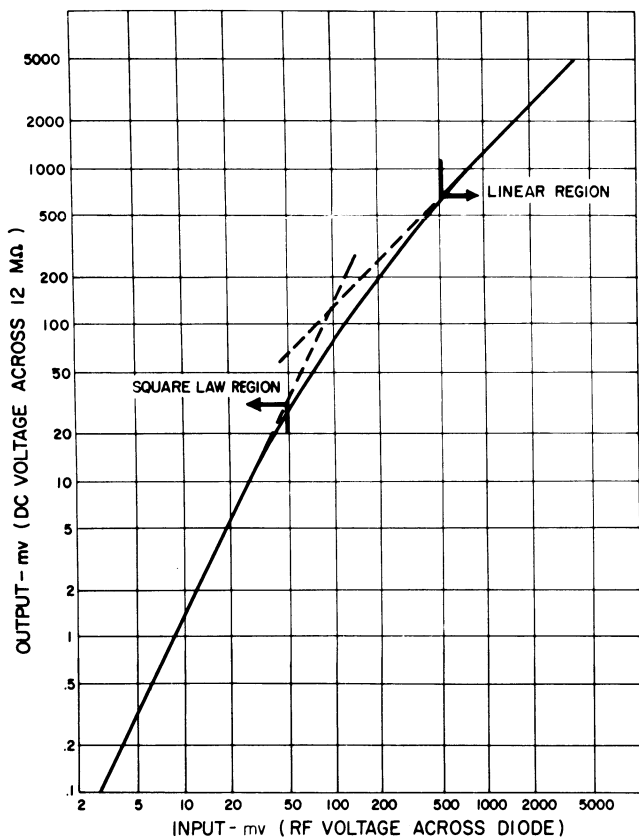

Figure 5.
2.3 VOLTAGE CORRECTION. It should be remembered that the diode characteristic changes from square law at low voltage to linear at higher voltages. To help correct for this characteristic, a typical diode characteristic curve is given in Figure 5.